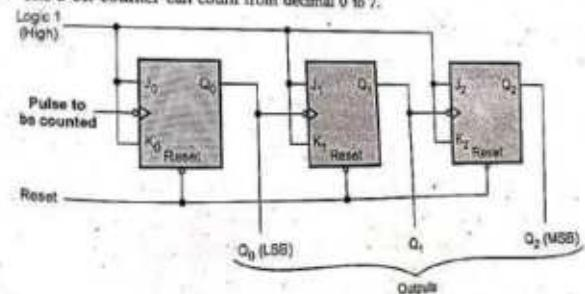

Fig. 5.7.4 Counter
- Fig. 5.7.4 shows 3-bit counter.